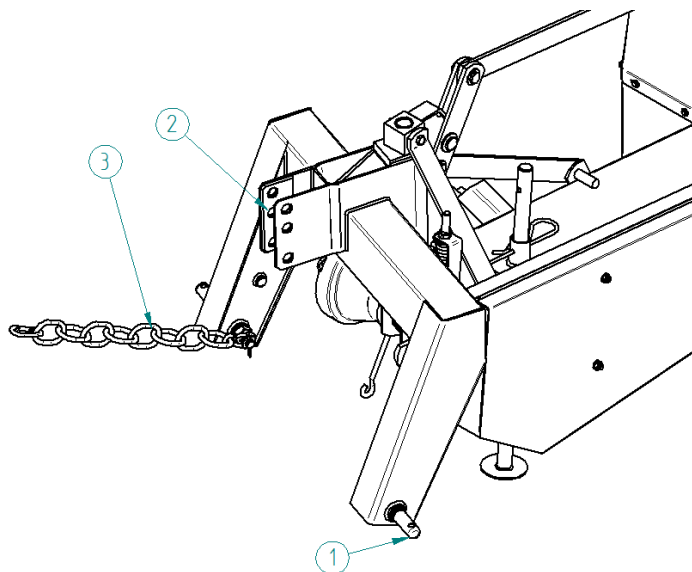

Figure 5 Aggregation – mower assembly
1. Place lower rods of the tractor (first the left, and then the right one) on the pins (Fig. 5 item 1) of the suspension frame and secure with cotters.
2. Place the end of the top link between the yoke plate using the holes (Fig. 5 item 2), and then connect with the pin and secure with a cotter.